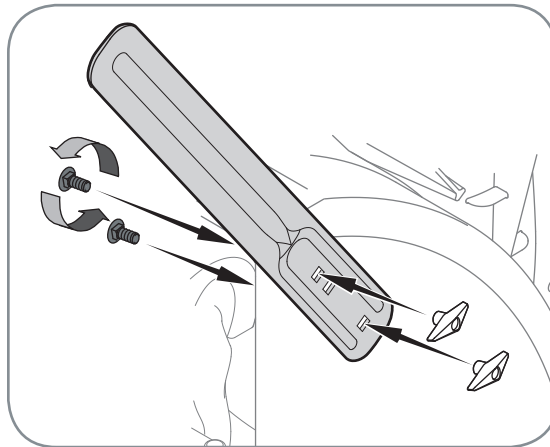

Figure 3-8
- Reposition drift cutters so they face forward as shown in Figure 3-8. Secure with hardware previously